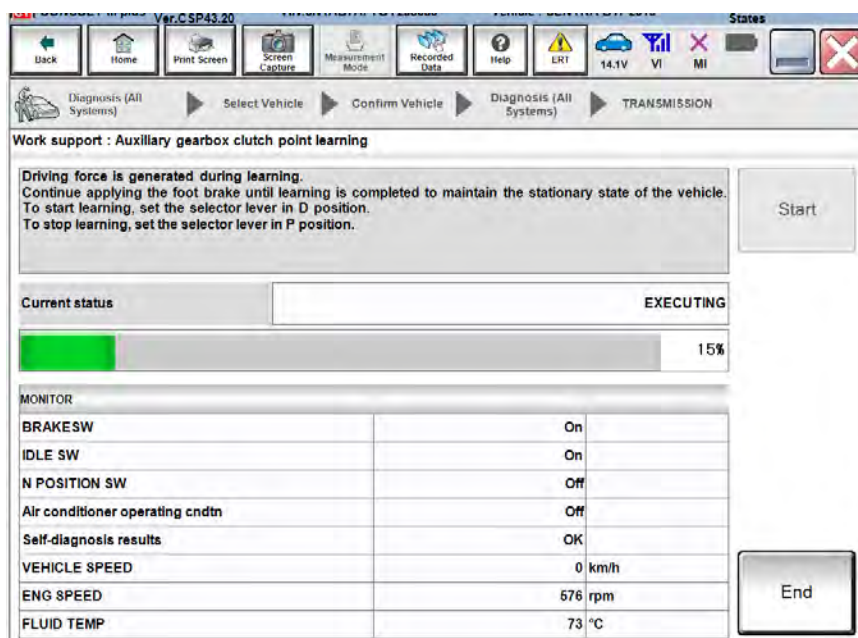

Figure 45
- Figure 45 will be displayed after shifting into **D** position.